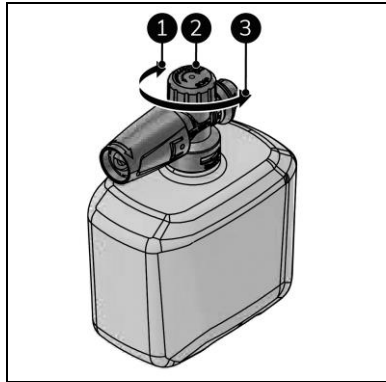

Figure 18
3. Rotate the head of the foam nozzle (Figure 18, pos. 2) to change the amount of foam:
- for more foam turn it clockwise (Figure 18, pos. 1).
- for less foam turn it anti-clockwise (Figure 18, pos. 3).